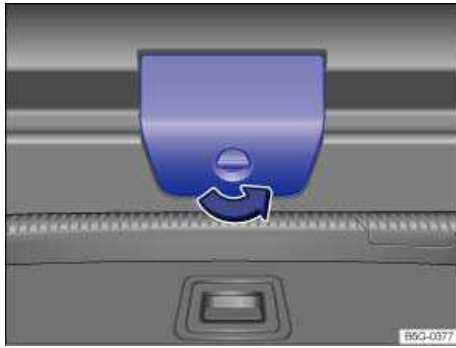

Fig. 163 Inside the luggage compartment: Cover for the rear hatch release.
- Open the cover ⇒ fig. 163 by turning the release in the direction of the arrow.